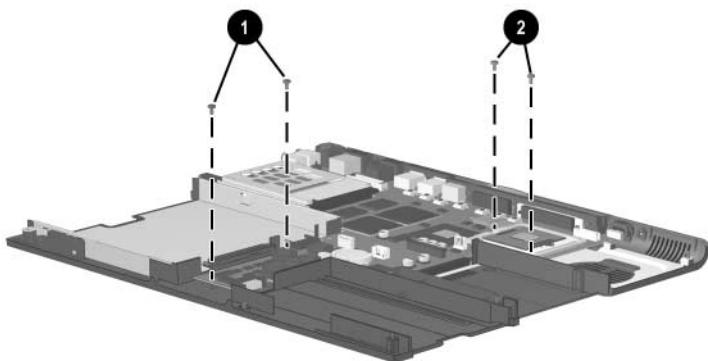

Figure 5-34. Removing the System Board Screws
5. Remove the two PM2.0 \times 5.5 screws 1 that secure the system board to the base enclosure on either side of the MultiBay connector (Figure 5-34).